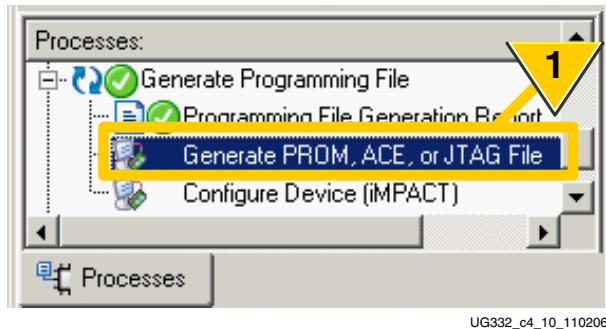

Figure 4-9: Double-click Generate PROM, ACE or JTAG File
1. From within the ISE Project Navigator, double-click **Generate PROM, ACE, or JTAG File** from within the Process pane, as shown in Figure 4-9.